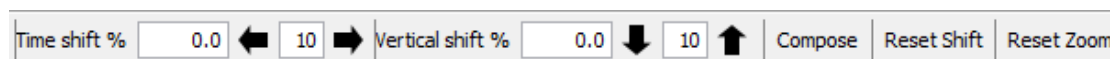

Figure 11.6: The Compare Chromatogram Maps Window Tool Bar
- a **Tool Bar** with various icons and controls, shown in Figure 11.6;